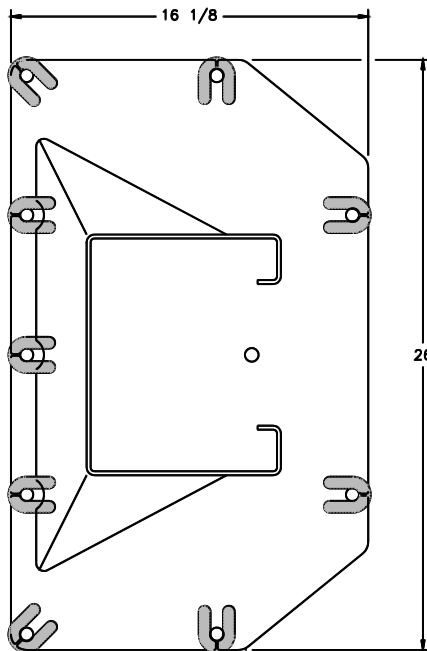

Figure 3
5. Shim both columns to plumb using the shims provided (Fig. 3). Do not shim more than 2" at any point. Use a level no less than 24" in length to plumb the columns.